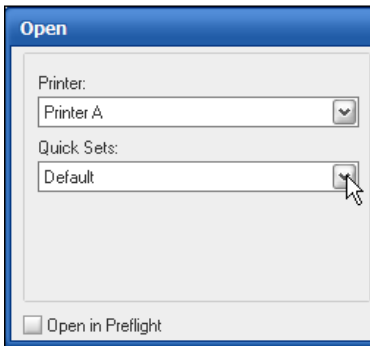

Figure 5—Open an Image
2. On the left-side of the dialog (see Figure 5), select which printer you want to use from the drop-down menu. If you have already created Quick Sets, select your **Quick Set**. If you have not, leave this setting as **Default**.